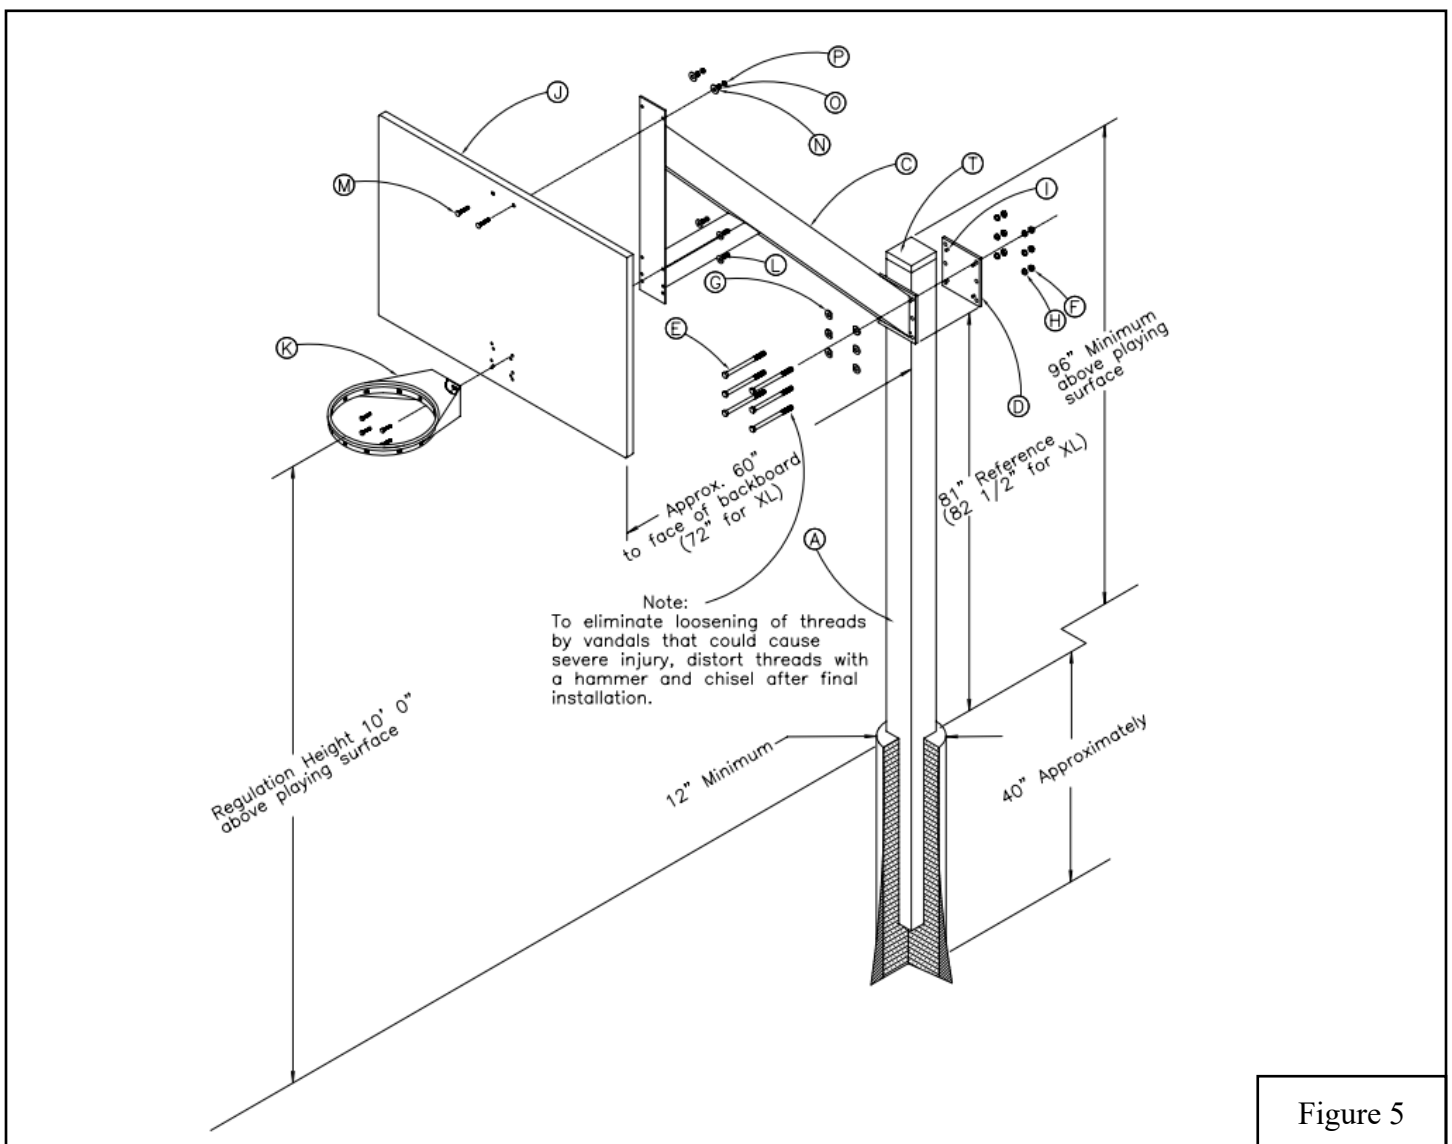

Figure 5
- 3a. Determine the position of the pole assembly by taking into account that the distance between the front of the pole assembly and the face of the backboard is approximately 60" (72" on XL Systems). See Figure 5.
- 4a. Dig a hole that is a minimum of 12" diameter and 40" deep, deeper in heavy frost areas. Remove dirt in the bottom 1/3 of the hole in a bell shape to improve pole stability. The amount of *Premix Concrete* (Y) required will depend on the final size of the hole, but a 12" diameter hole, 40" deep with minor additional soil removed from the hole will require approximately 3.5 cubic feet of *Premix Concrete* (Y). Always better to have too much rather than too little on site. See Figure 5.
- 6a. Fill the footing to the top with medium wet fully mixed concrete. Never use the *Premix Concrete* (Y) dry.
- 7a. Insert the pole assembly into the center of the footing making sure that one set of 1/2" x 3/4" Button Head Screws (V) are on the back side of the pole assembly, and that the front face of the pole assembly is square to the playing surface.
- 8a. While the concrete is still wet, and the pole assembly is movable, adjust the *Installation Aid* (Z-BB) on the pole assembly to help maintain the top of the pole at 96" from the playing surface, plumb in both directions, and with the front face of the pole parallel to the court. See Figure 5.
- 9a. **ALLOW AT LEAST 4 DAYS FOR CONCRETE TO CURE BEFORE COMPLETING THE INSTALLATION TO AVOID FOOTING FAILURE. Install *Warning Label* (HH) at eye level on the rear of the pole. If your warning label becomes damaged or is unreadable, request a no cost replacement from the manufacturer.**
16. Using a marker or masking tape, mark the pole assembly 81" (82 1/2" on XL Systems) above the final playing surface. See Figure 5.
17. Drive four 3/8" x 1 1/2" Spring Pins (I) into both the *Extension Arm (C)* and the *Extension Arm Mounting Plate (D)*. See Figure 5.
18. With the 3/8" x 1 1/2" Spring Pins (I) extending toward the pole, attach the *Extension Arm (C)* to the *Extension Arm Mounting Plate (D)* using 5/8" x 8" Hex Bolts (E), 5/8" Hex Nuts (F), 5/8" Flat Washers (G), and 5/8" Lock Washers (H) with the **bottom** of the mounting plate on the *Extension Arm (C)* in line with the 81" mark on the pole. Tighten all 5/8" hardware when the *Extension Arm (C)* pole mounting plate is level. See Figure 5.
19. If installing a double-sided system, a second *Extension Arm (C)* is used instead of the *Extension Arm Mounting Plate (D)*, but with the same hardware. See Figure 5.
20x. Loosely attach the *Backboard (J)* to the previously installed *Extension Arm (C)* using the 7/16" hardware (M)(N), (O), and (P). See Figure 5.